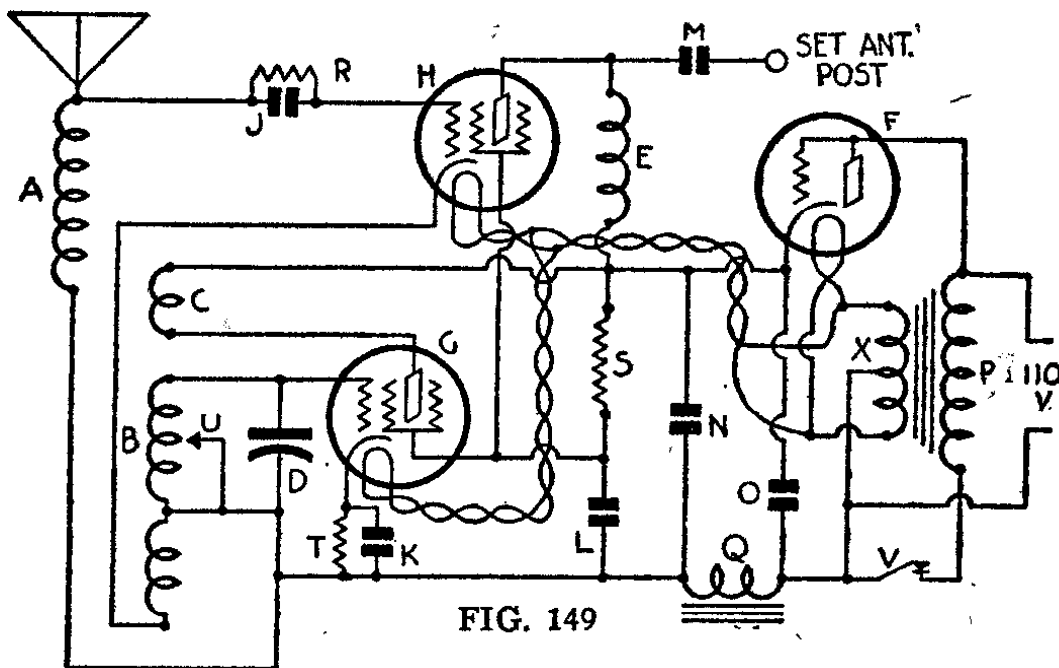

FIG. 149
*The Superheterodyne Short-Wave Converter:* One of the best ways to make use of any broadcast receiver, having at least two and preferably three screen grid tubes, is to employ the all-electric (A.C.) superheterodyne converter illustrated in Fig. 149. A word of warning, however. The converter does not amplify short-wave signals. All that it does is convert the signals into a form suitable for amplification by the regular broadcast circuit. If the broadcast set is lack-
As a study of the wiring and picture diagrams of Figs. 149 and 152 will show, the type '27 tube in socket F serves as the rectifier and together with the filter system composed of the electrolytic condensers N and O and the filter choke Q furnishes the converter